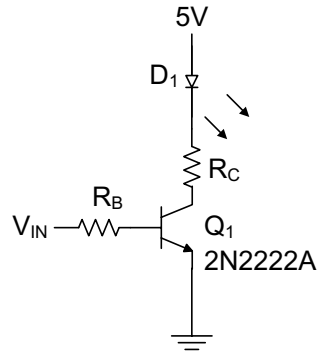

Figure 1. LED driver circuit
Similar to the MOSFETs studied previously, the bipolar junction transistor (BJT) can be used as a switch or as a linear current-controlled current-source, in a circuit as shown in Figure 1. By operating the transistor in its active region, we can use it as a current-controlled current-source. By controlling the base current, we can directly control the collector current and hence the current delivered to the load. In the active region, I_C is known by the relationship
2. Construct the circuit shown in Fig. 1. Set the 25 V output terminals to produce 5 V and connect them to the collector circuit. Set the 6 V output terminals to 0 V and connect as V_{IN} .